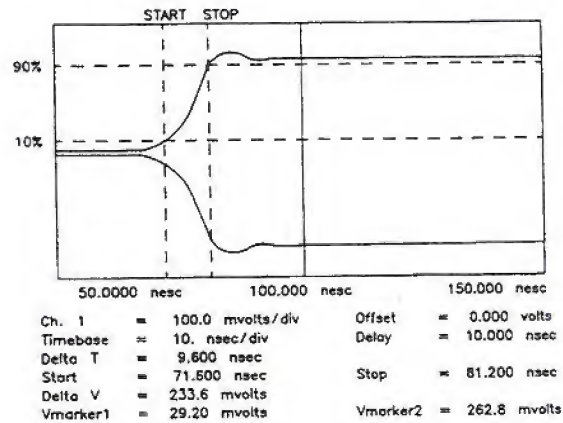

Figure 4-13. Oscilloscope Display
35. Set the HP 8657B to the frequencies shown in the following Table. For each frequency measure the 10% to 90% Rise Time of the RF Pulse. The Delta V and Delta T Markers will require repositioning after each frequency change. To measure Fall Time will require a Shift Delay of +10 usec minimum on the oscilloscope to view the trailing edge of the pulse (including markers). Refer to Figure 4-13 for an example of the oscilloscope measurement display. The Rise and Fall Time should be within the limits shown in the Table.